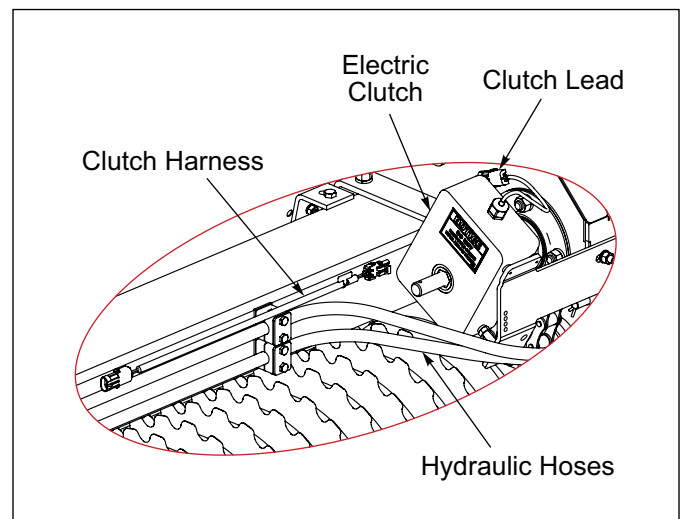

Figure 2-21: Clutch Harness
2. Connect Clutch Harness to Clutch Lead and route along Frame and Drawbar/3-PT Hitch. Secure to Frame and Drawbar/3-PT Hitch or with Hydraulic Hoses and Warning Lamp Harness with tie wraps and Adhesive Mounting Plates. **See Figure 2-21.**